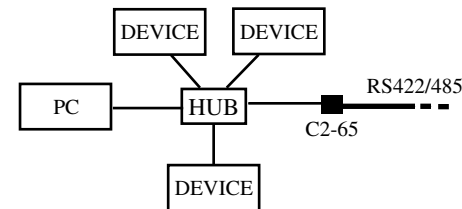

Fig. 2
1) For star topology connect the devices to a USB hub as in fig. 2